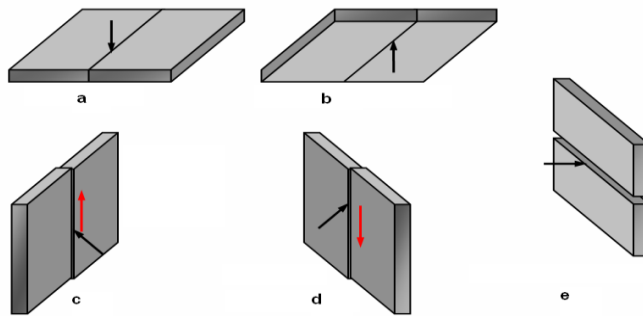

Figure 1.0 .welding position (ISO 6947)
- (a) From the Figure 1.0 welding position designation for plate and pipe, name a suitable weld position, in the table 2.0.